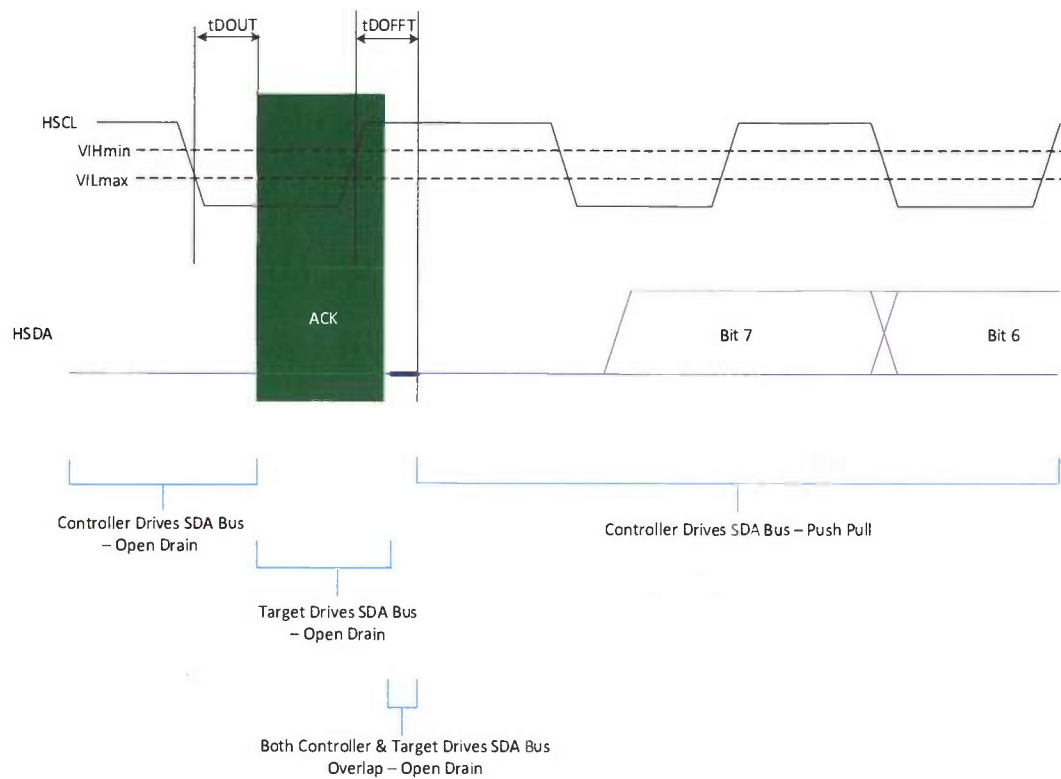
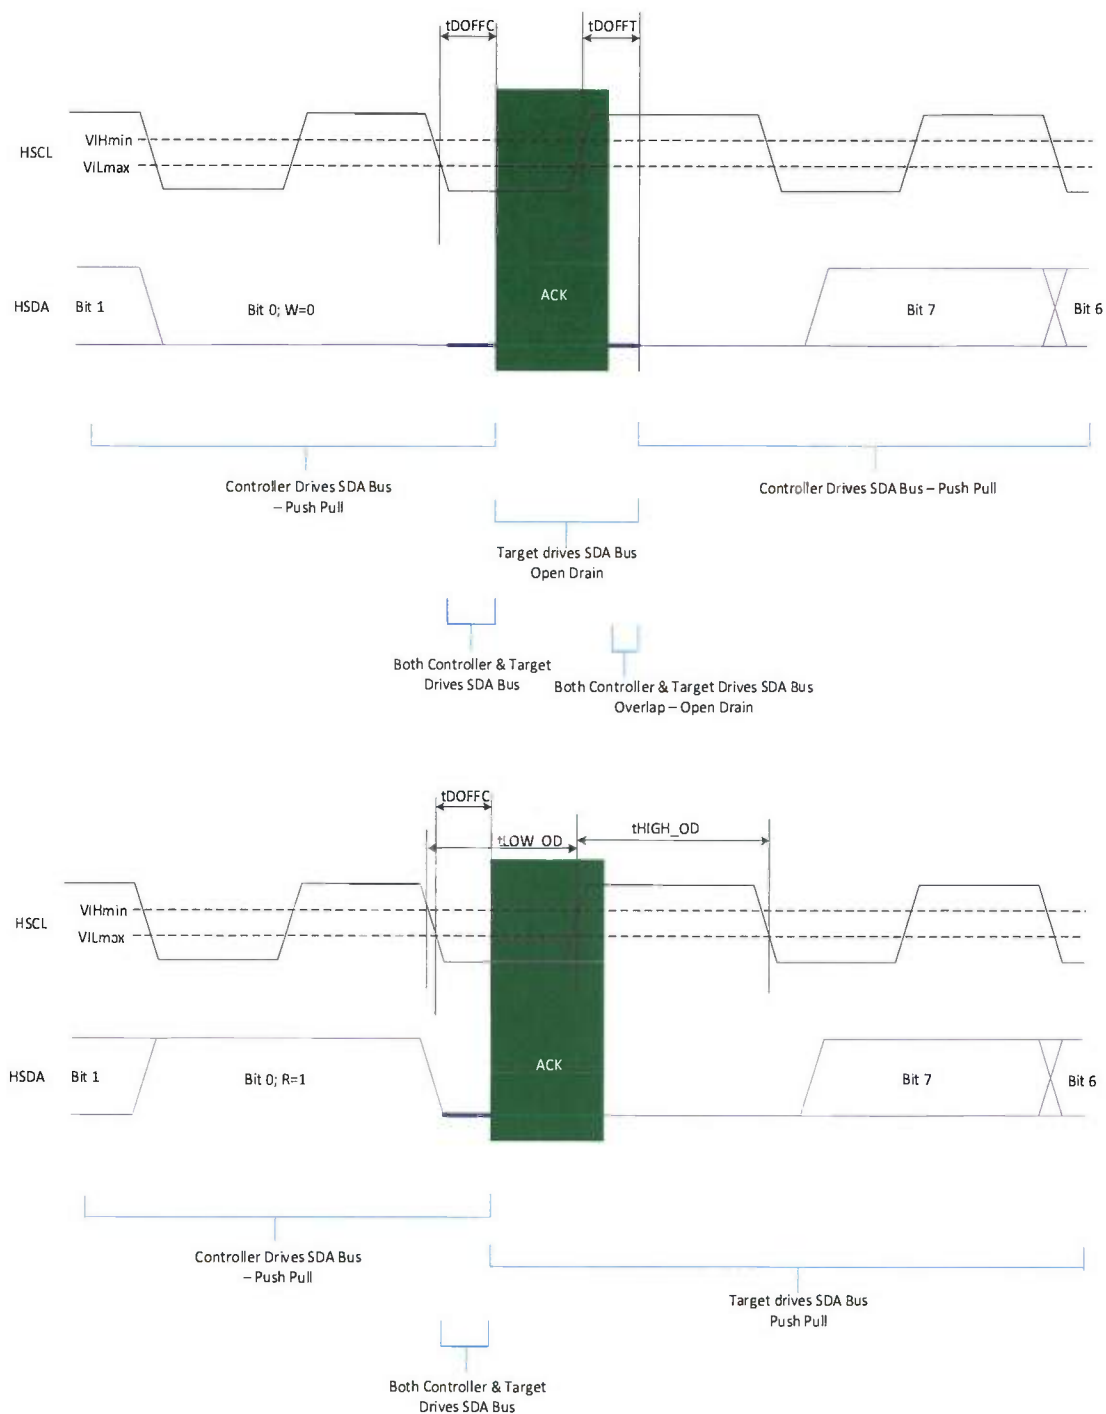

Figure 20 — Target Open Drain to Controller Push Pull Hand Off Operation
Figure 22 — Controller Push Pull to Target Open Drain Hand Off Operation
NOTE 1 See Figure 20 to see how the transition occurs from Target Open Drain (ACK) to Host Push Pull Operation (1st bit of Addr, bit [7]).
- NOTE 1 See Figure 20 to see how the transition occurs from Target Open Drain (ACK) to Host Push Pull Operation (1st bit of Addr, bit [7]).
- NOTE 3 See Figure 22 to see how the transition occurs from Host Push Pull Operation to Target Open Drain (ACK) and See Figure 20 to see how the transition occurs from Target Open Drain (ACK) to Host Push Pull Operation (1st bit of Addr, bit [7]).
- NOTE 5 See Figure 22 to see how the transition occurs from Host Push Pull Operation to Target Open Drain (ACK).
NOTE 3 See Figure 22 to see how the transition occurs from Host Push Pull Operation to Target Open Drain (ACK) and See Figure 20 to see how the transition occurs from Target Open Drain (ACK) to Host Push Pull Operation (1st bit of Addr, bit [7]).
NOTE 5 See Figure 22 to see how the transition occurs from Host Push Pull Operation to Target Open Drain (ACK).
NOTE 1 See Figure 20 to see how the transition occurs from Target Open Drain (ACK) to Host Push Pull Operation (Repeat Start).
NOTE 3 See Figure 22 to see how the transition occurs from Host Push Pull Operation to Target Open Drain (ACK).